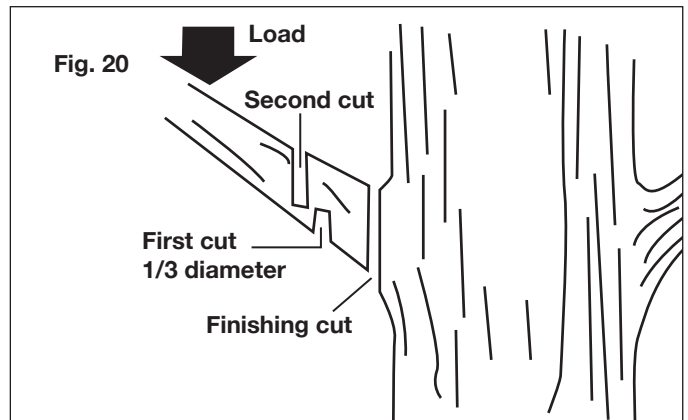

Fig. 20
- Under cut the branch 1/3 through for your first cut. Your second cut should over cut to drop the branch off (Fig. 20). Be prepared to balance the weight of the pole chain saw when the limb falls.